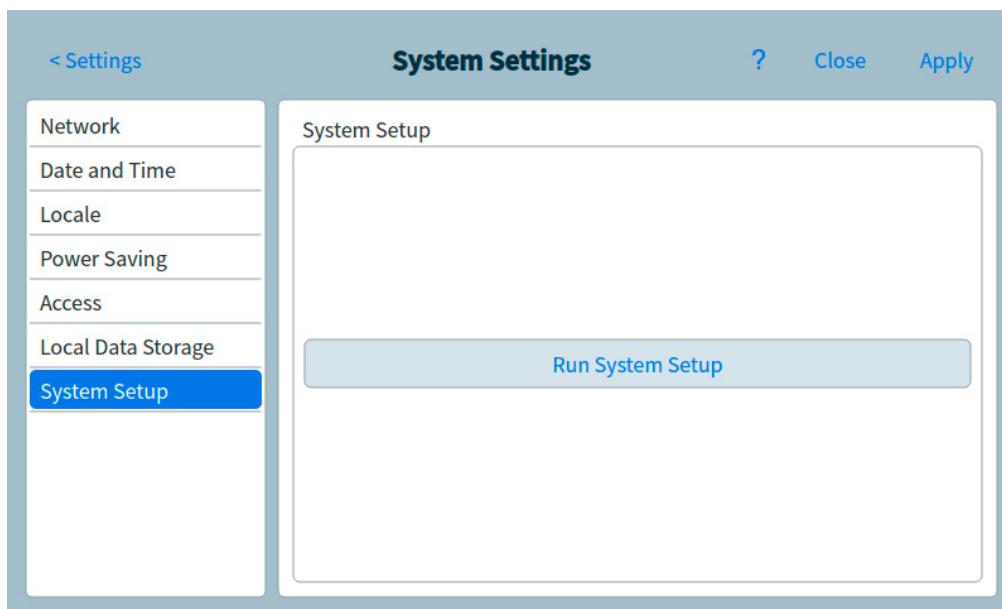

Figure 48. System Setup page
- 1 From the System Settings page, select the **System Setup** page selection button. The System Setup page appears. See **Figure 48**.